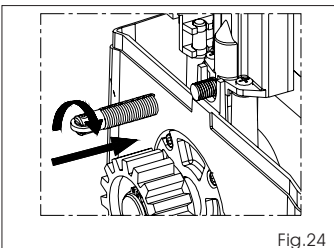
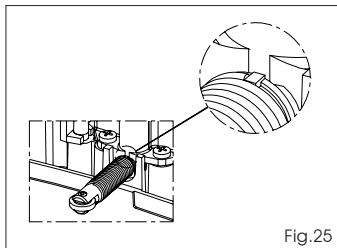

Fig.24
Fig.25
- Fit the spring turning it clockwise, Fig. 24, until the stop is reached; see Fig. 25.